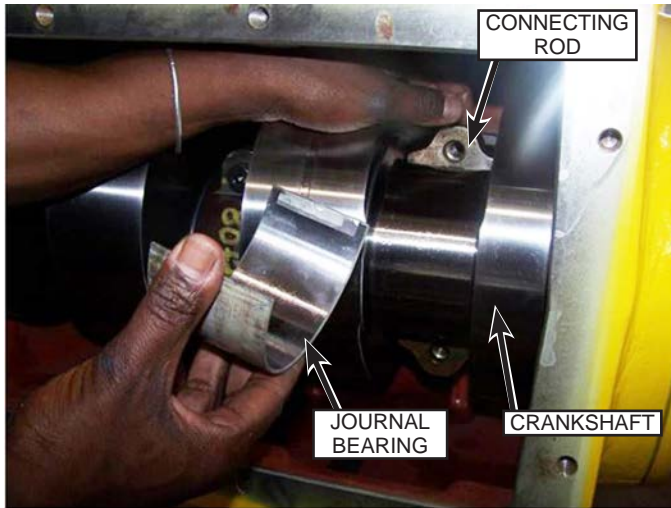

Fig. 136: Inner Bearing Removal
7. To access the inner journal bearing (Fig. 136), push the connecting rod away from the crankshaft. Slide the bearing from the rod.